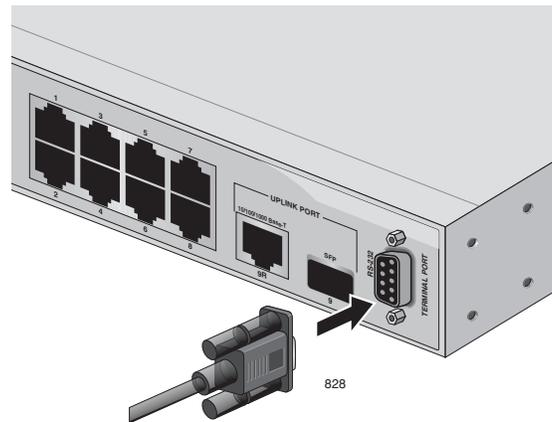

Figure 15. Connecting the Console Cable
1. Connect one end of the management cable to the console port on the switch, as shown in Figure 15.